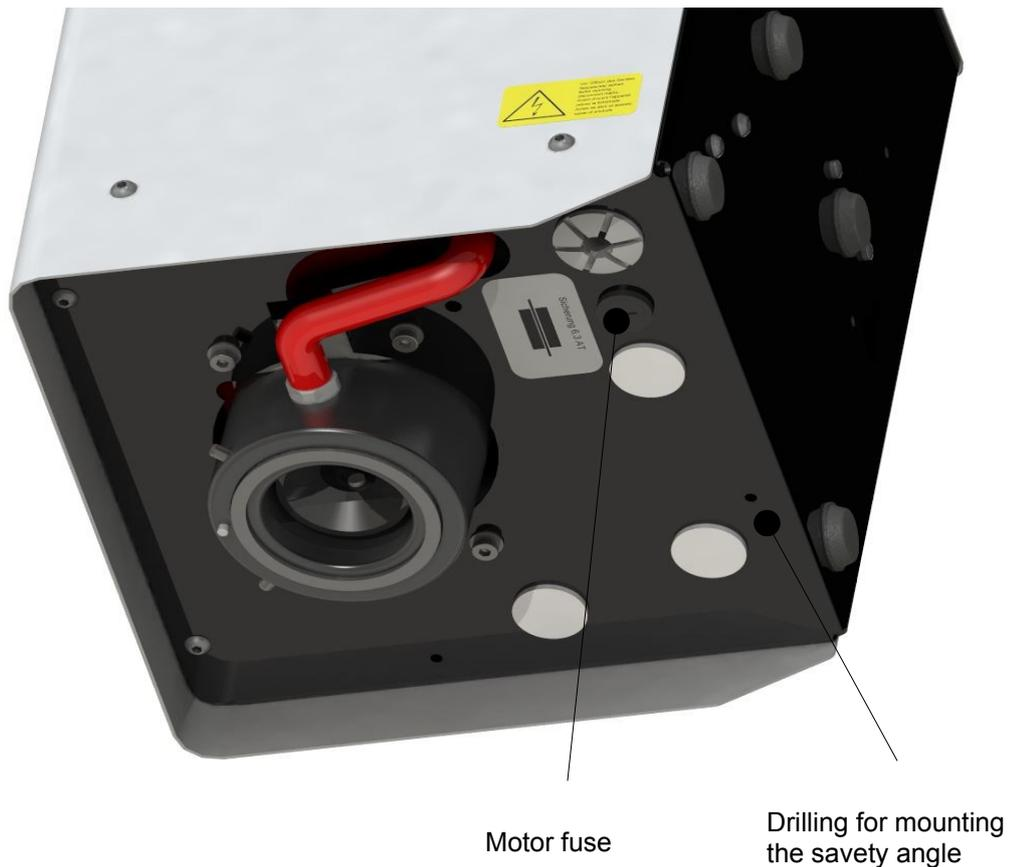

Fig. 3
Screw the safety angle to the **Wamix** as shown in *Figure 3*.
Carefully hook in the device. Check, whether the device hangs loosely (i.e. moving back and forth on the screws). If this is the case tighten the 6x50 screws until the device hangs securely. Finally tighten the safety angle. First at the wall, then tighten the screw on the device itself (*Figure 3*).
-  Fill the beaker to the *Max marking*. Please pay special attention to the lower Max marking for Silicon. Otherwise the vacuum would draw any excess material into the system. Excess material would be appeared in the „control window“ (*Fig. 3*).